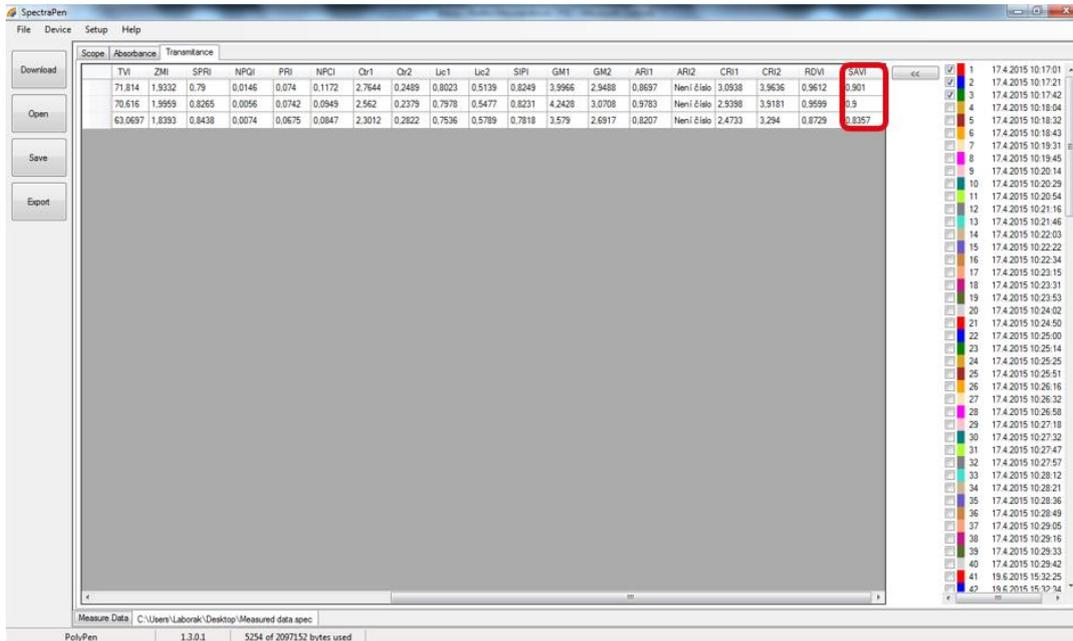

Fig. 42 Downloaded data with newly defined index.
2. The new index appears in the selected bookmark in the data (Fig. 42).